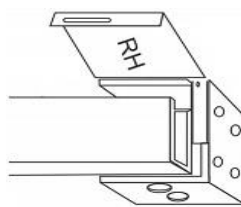

Figure 2
- i) Insert headrail into mounting brackets (part A) (Figure 2) and lock hinged flaps down to hold headrail in position
- i) Screw the pelmet clips (part C) the back of the pelmet supplied, flush with the top of the pelmet (Figure 2)
- ii) Insert headrail into mounting brackets (part A) (Figure 2) and lock hinged flaps down to hold headrail in position